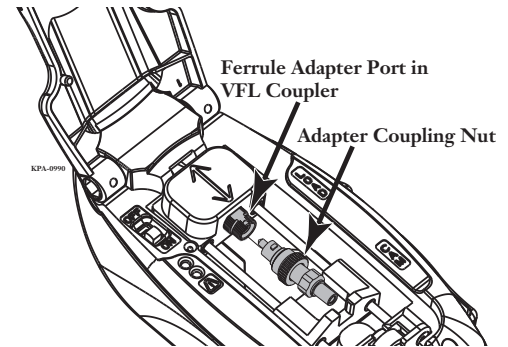

Figure 53 — Remove Ferrule Adapter
- Step 2:** Unscrew the Adapter Coupling Nut from the Ferrule Adapter Port (Figure 53).